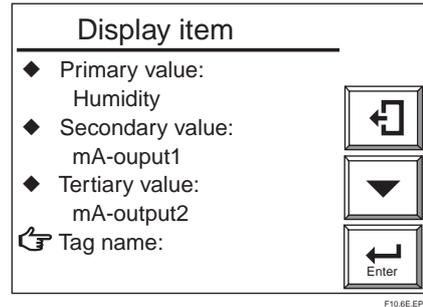

Figure 10.6 “Display Item” Display
- (1) Select the Setup key from the basic panel display to display the Execution/Setup display. Then select Maintenance from the Execution/Setup display.
- (2) Select the Display setup from the Maintenance display.
- (3) Select the Display item from the Display setup display. The display shown in Figure 10.6 then appears.
- (4) Select the Tag name from the Display item. The text-data entry display then appears.
- (5) Enter up to 12 alphanumeric characters including codes for the desired tag name.